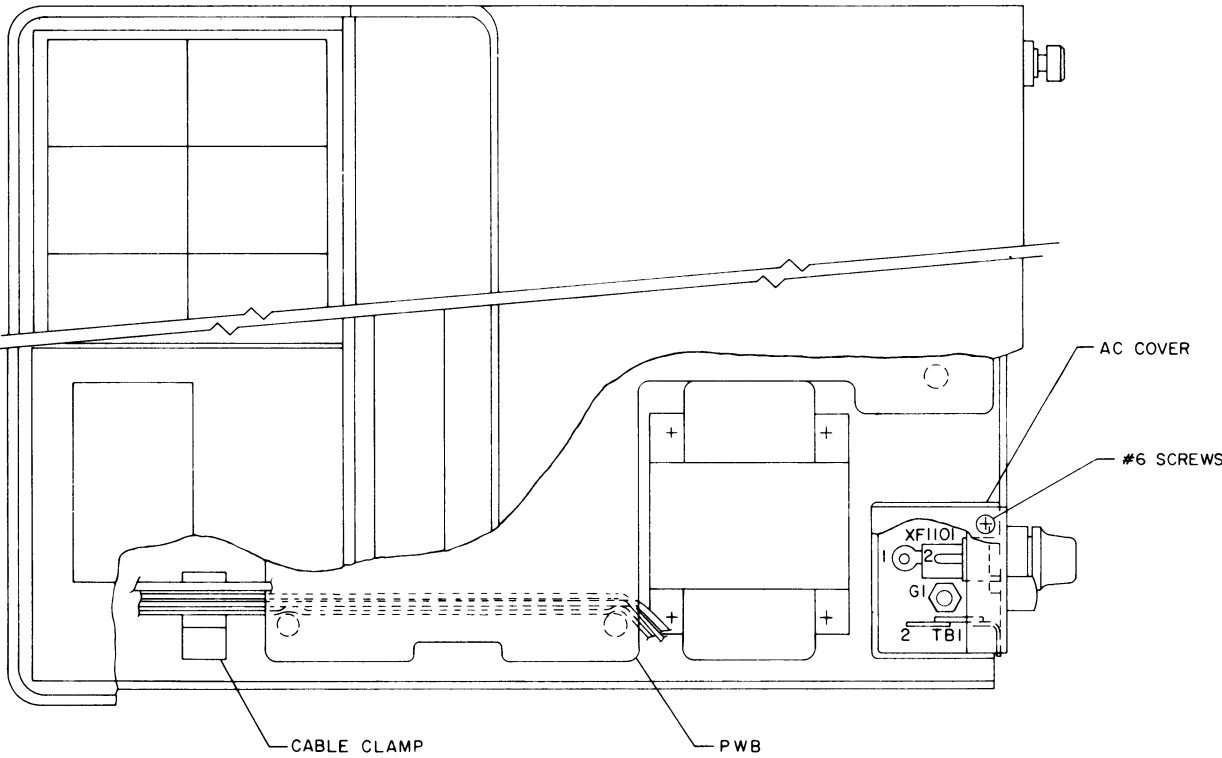

FIG. 2
5. ROUTE WIRES FROM CLOCK UNDER PWB AS SHOWN IN FIG. 2. DO NOT ROUTE THRU CABLE CLAMP OR SPOT TIE TO OTHER WIRING.
4. ROUTE POWER CABLE THROUGH HOLE IN CHASSIS AS SHOWN IN FIG. 2 AND VIEW "A".
INSTRUCTIONS: FOR FIG 2